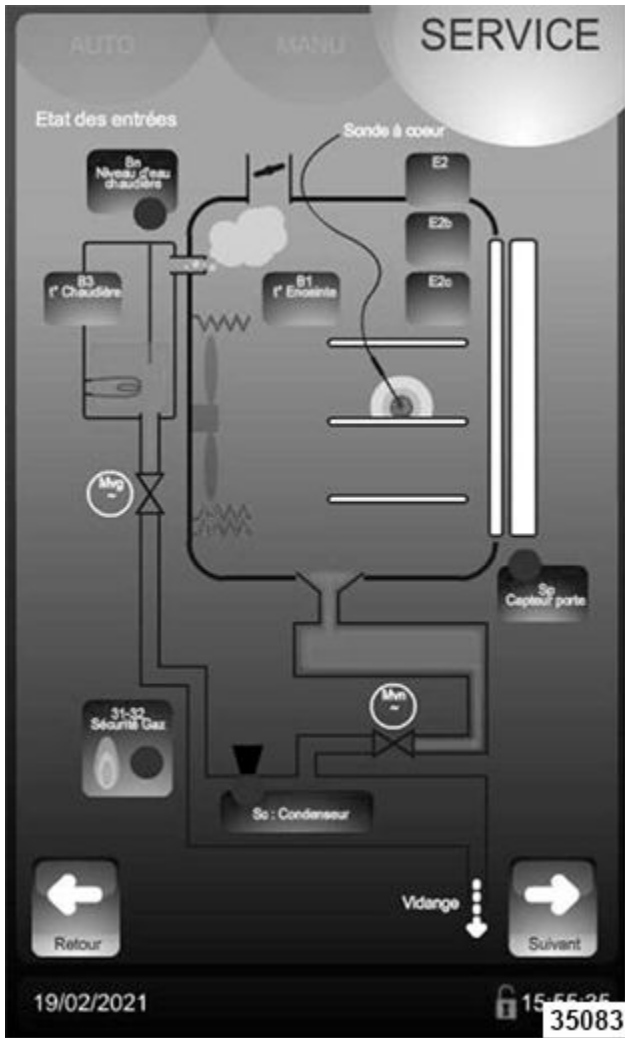

Fig. 138
5. Select **Next** icon to show **State of Inlets** screen (Fig. 138).